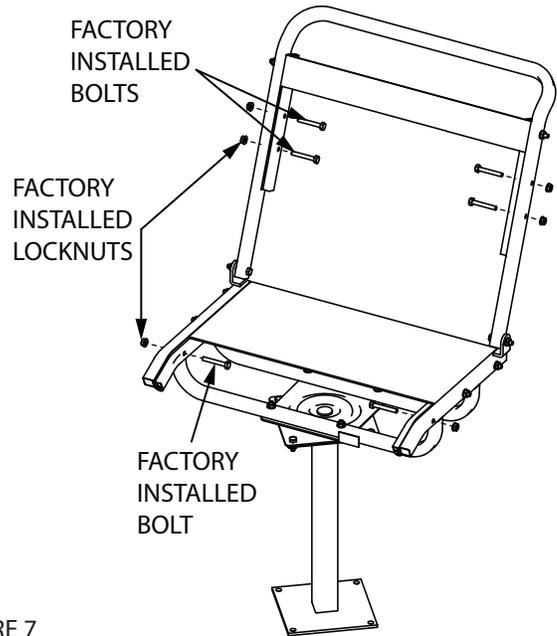

FIGURE 7
8. For assembly of the armrests and shooting rail, you must first remove the “front” (2) bolts/nuts from factory assembled seat frame and the “bottom” (4) bolts/nuts from factory assembled backrest frame. Discard this hardware. **SEE FIGURE 7**